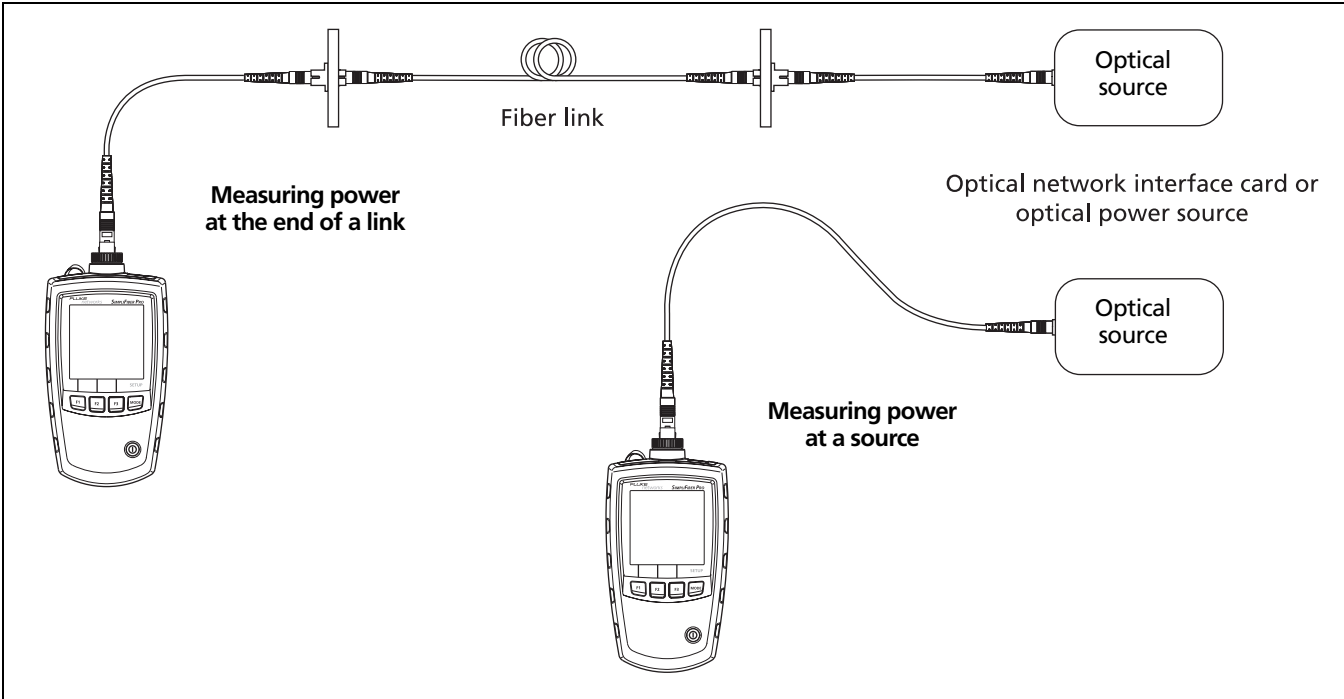

Figure 7. Power Measurement Connections
- 3 Make the connections shown in Figure 7.